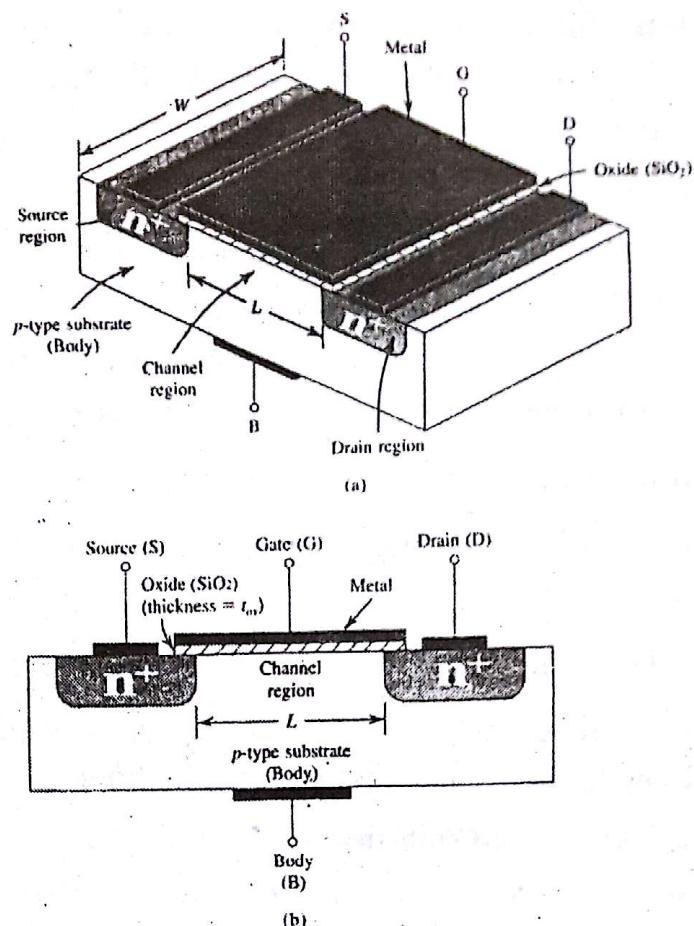

Figure 3.29 Physical structure of the enhancement-type NMOS transistor: (a) perspective view (b) cross section
The physical structure of the n-channel enhancement-type is shown below. The transistor is fabricated on a p-type substrate, which is a single-crystal silicon wafer that provides physical support for the device. Two heavily doped n-type regions, as indicated by n^+ are created in the substrate as source and drain. A thin layer of silicon dioxide (SiO_2) of thickness, t_{ox} (typically 2-50 nm), which is an excellent electrical insulator, is grown on the face of substrate as shown in **Figure 3.29** that follows. Metal is deposited on top of the oxide layer to form the gate electrode of the device. Metal contacts are also made to the source region, the drain region, and the substrate (body). Thus, four terminals are brought out: the gate terminal (G), the source terminal (S), the drain terminal (D), and the substrate or body terminal (B).